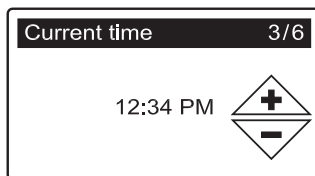

FIG. 10
5. **CURRENT TIME** Press the DOWN (▼) or UP (▲) buttons to set the current time (See Figure 10). Hold the button down to rapidly advance. Be sure that AM or PM is correct. If the system units were set to metric in Step 3, the clock will be in 24-hour format.